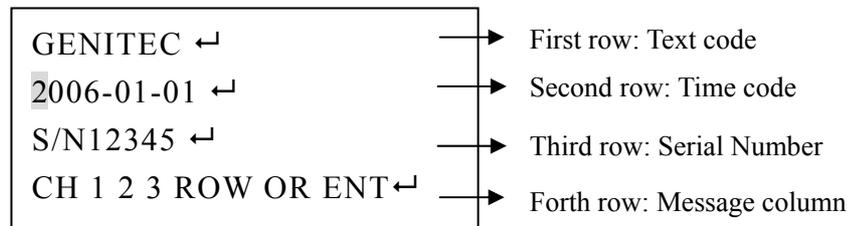

Figure23
2. When you press the  button, CAUSER blinks will skip to the HOME of the second row, you can edit data at the position. (Refer to figure 23).